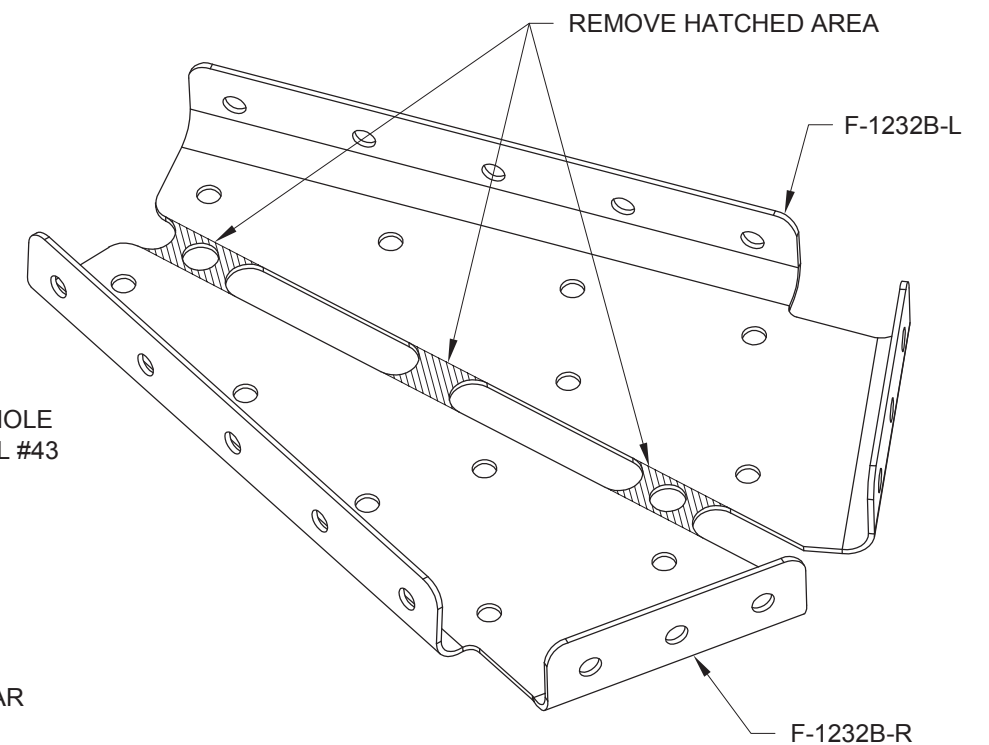

FIGURE 3: BREAKING APART THE ROLL BAR BRACE BRACKETS
Step 12: Remove the hatched areas shown in Figure 3 to separate the F-1232B Roll Bar Brace Bracket into left and right parts.